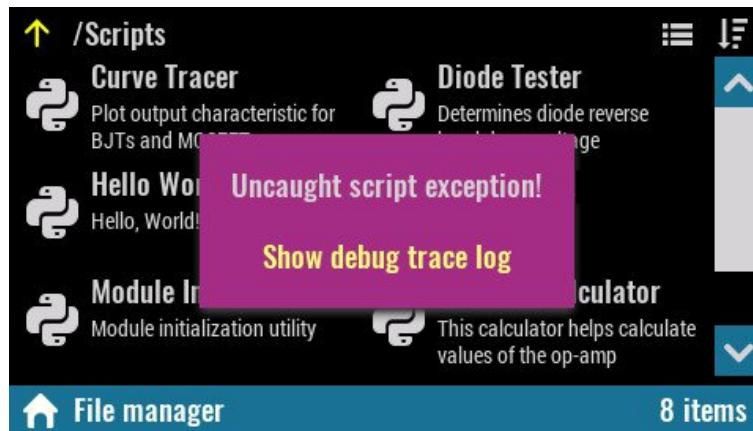

Fig. 27: MicroPython script error message
*Hello world.py* and *Hello world.res* files will now need to be downloaded to EEZ BB3 in the *Scripts* folder. We can also use EEZ Studio for this, but its ESW part used to communicate with SCPI instruments such as EEZ BB3. The procedure is the same as in the case of the Upgrade peripheral module firmware using GUI on BB3 section in Chapter 13. The download parameters of the MicroPython script are shown in Fig. 27. The same will need to be done for the resource file (*Hello world.res* ).